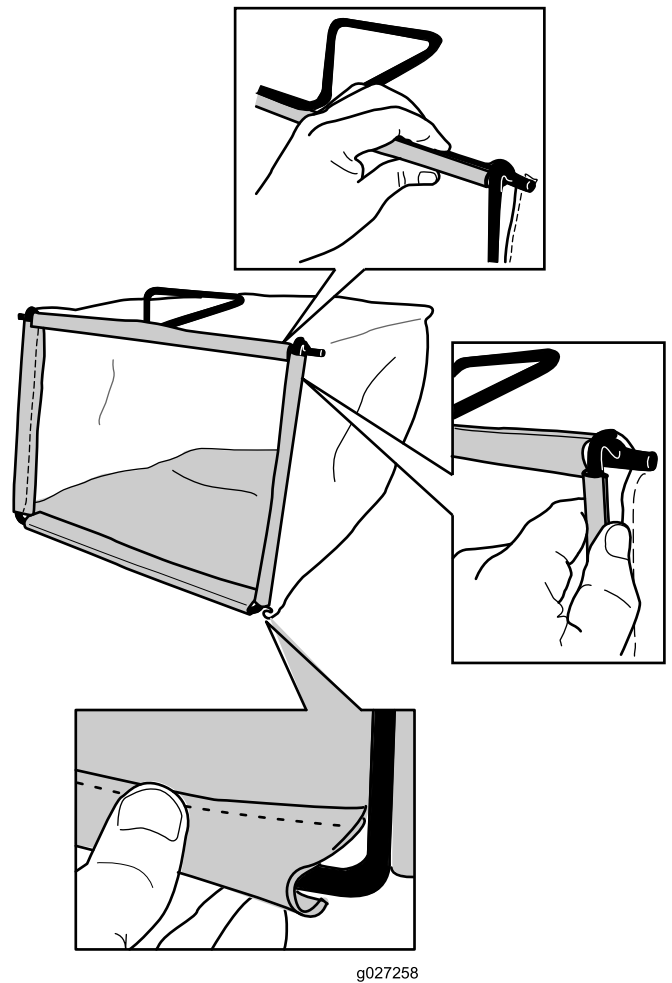

Figure 11
2. Hook the bottom channel of the bag onto the bottom of the frame (Figure 11).
3. Hook the top and side channels of the bag onto the top and sides of the frame, respectively (Figure 11).